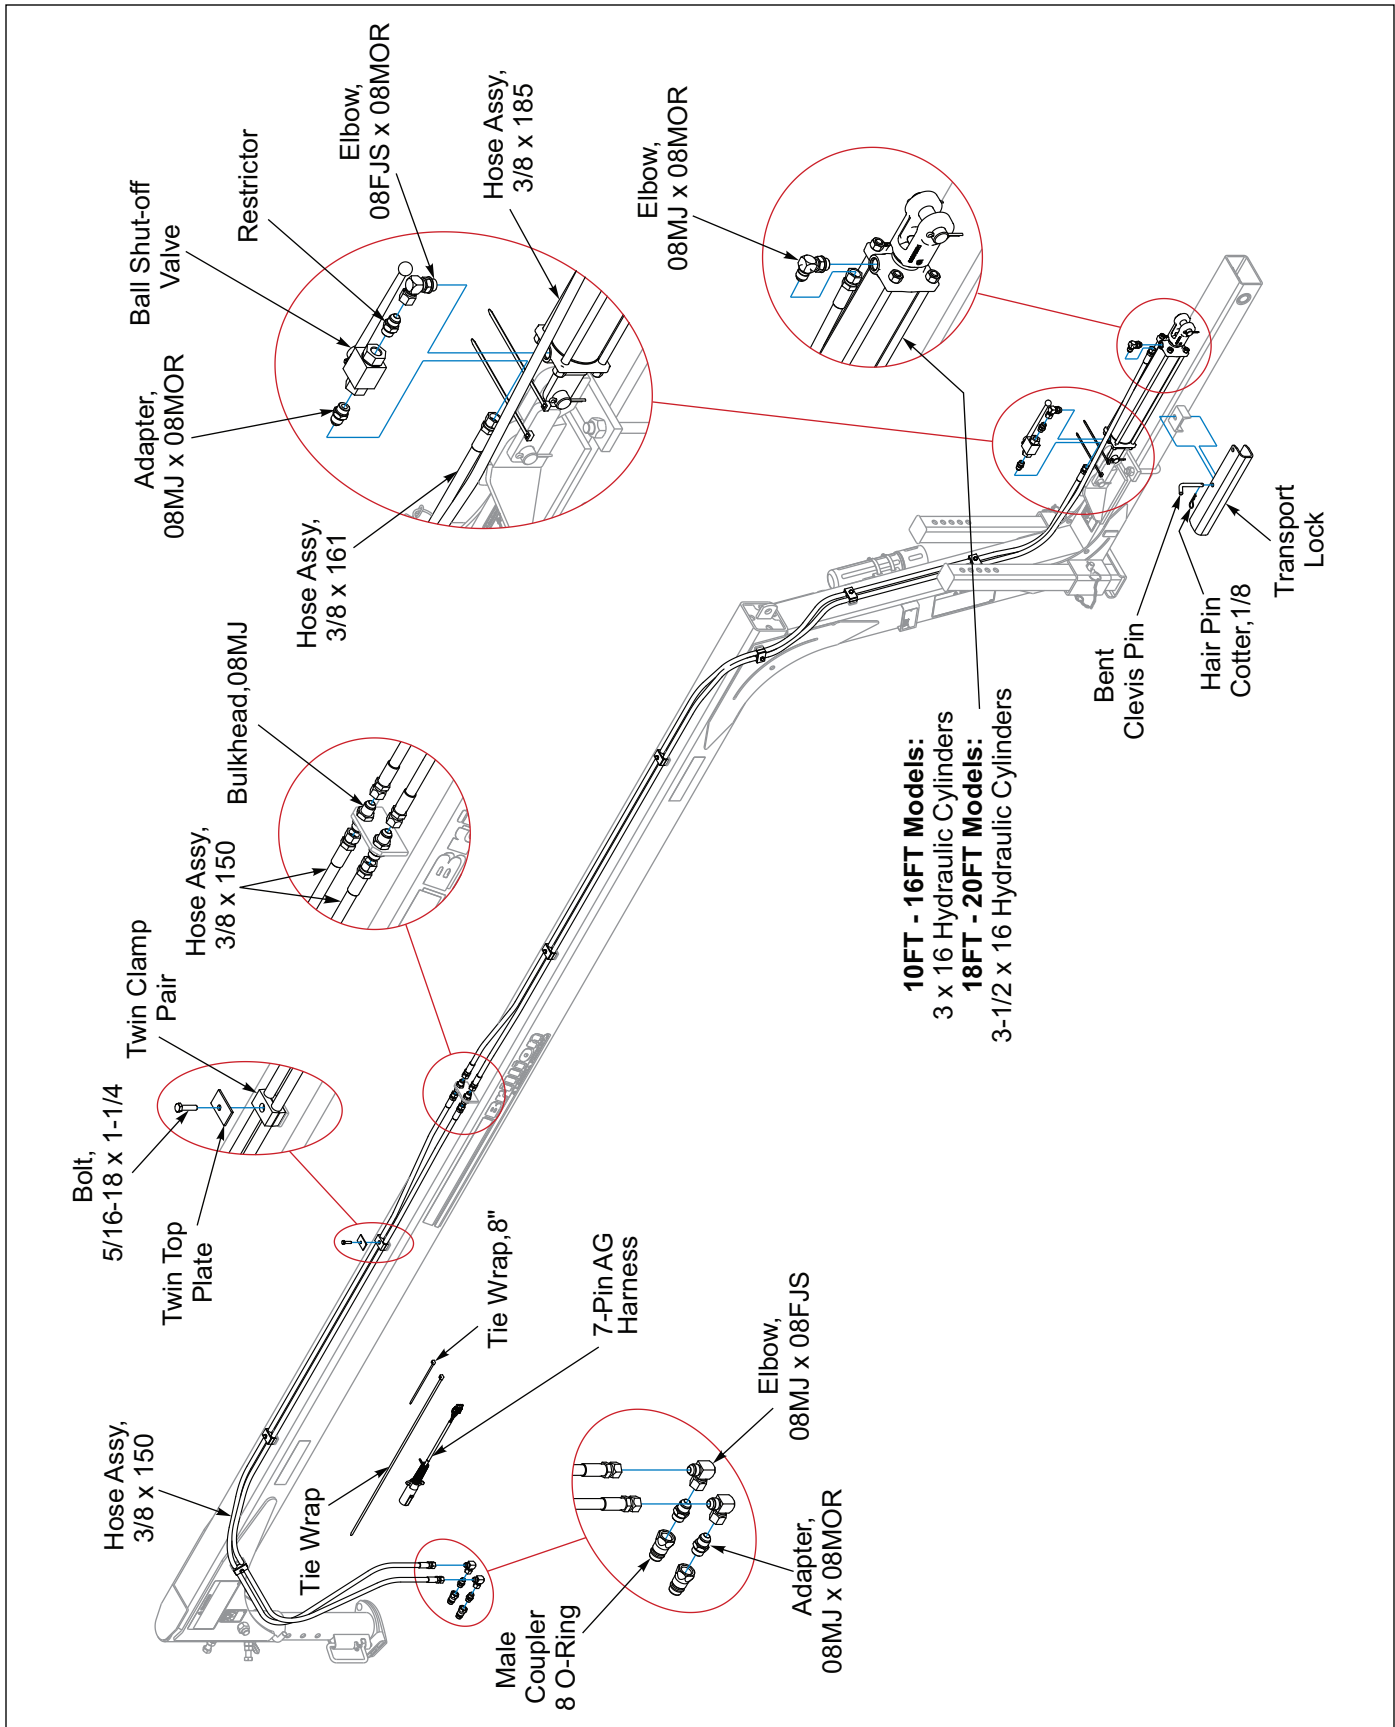

Figure 2-17: Bridge Hitch Hydraulic System Installation
8. Secure hoses with Twin Clamps, Top Plate and 5/16-18 x 1-1/4 Bolts in the mounts provided on the Bridge Hitch. **See Figure 2-17.**